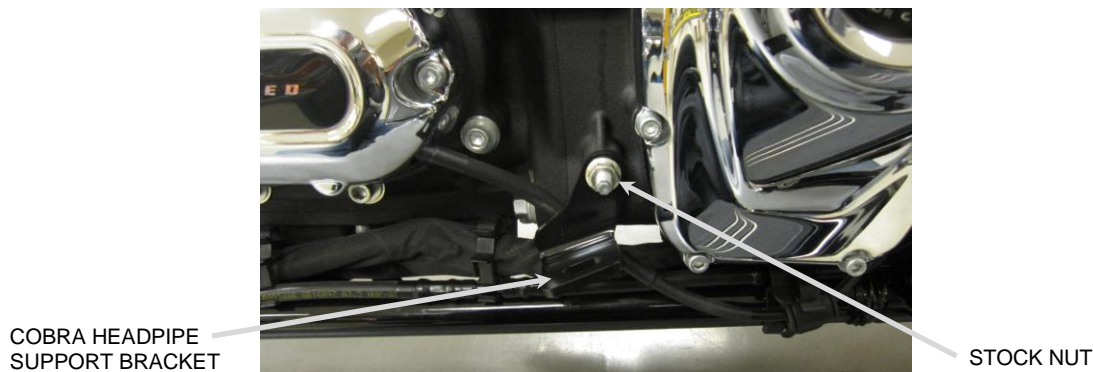

FIGURE 1
5. Install the supplied headpipe support bracket using the stock nut. See **FIGURE 1**. Lightly snug the nut but **DO NOT TIGHTEN** so the bracket can be adjusted. The bracket should be positioned at a slight angle. See **FIGURE 1**.